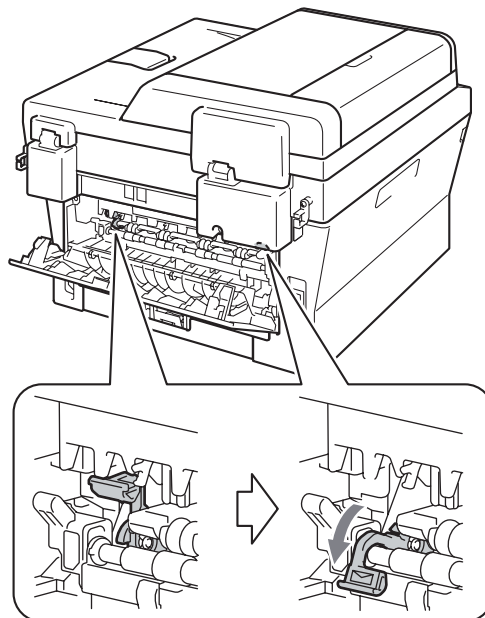

Fig. 2-8
- Turn the green envelope levers to the direction of the black arrow. (Refer to Fig. 2-8.)
- Return the green envelope levers to the home position. (Refer to Fig. 2-8.)